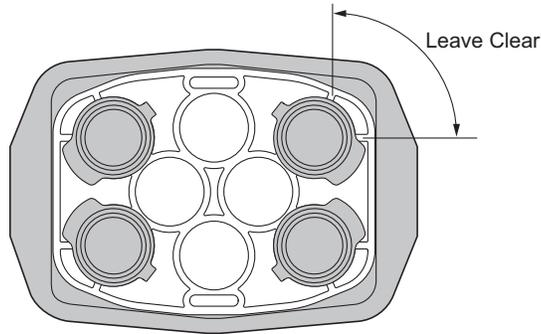

Figure 5. Orientation of Capped Tubes in Corner Positions of Adapter 392074
- In adapter 392074, capped tubes placed in the four corner positions must be oriented so that the cap hinges and tabs do not extend towards the corners of the adapter (see Figure 5).